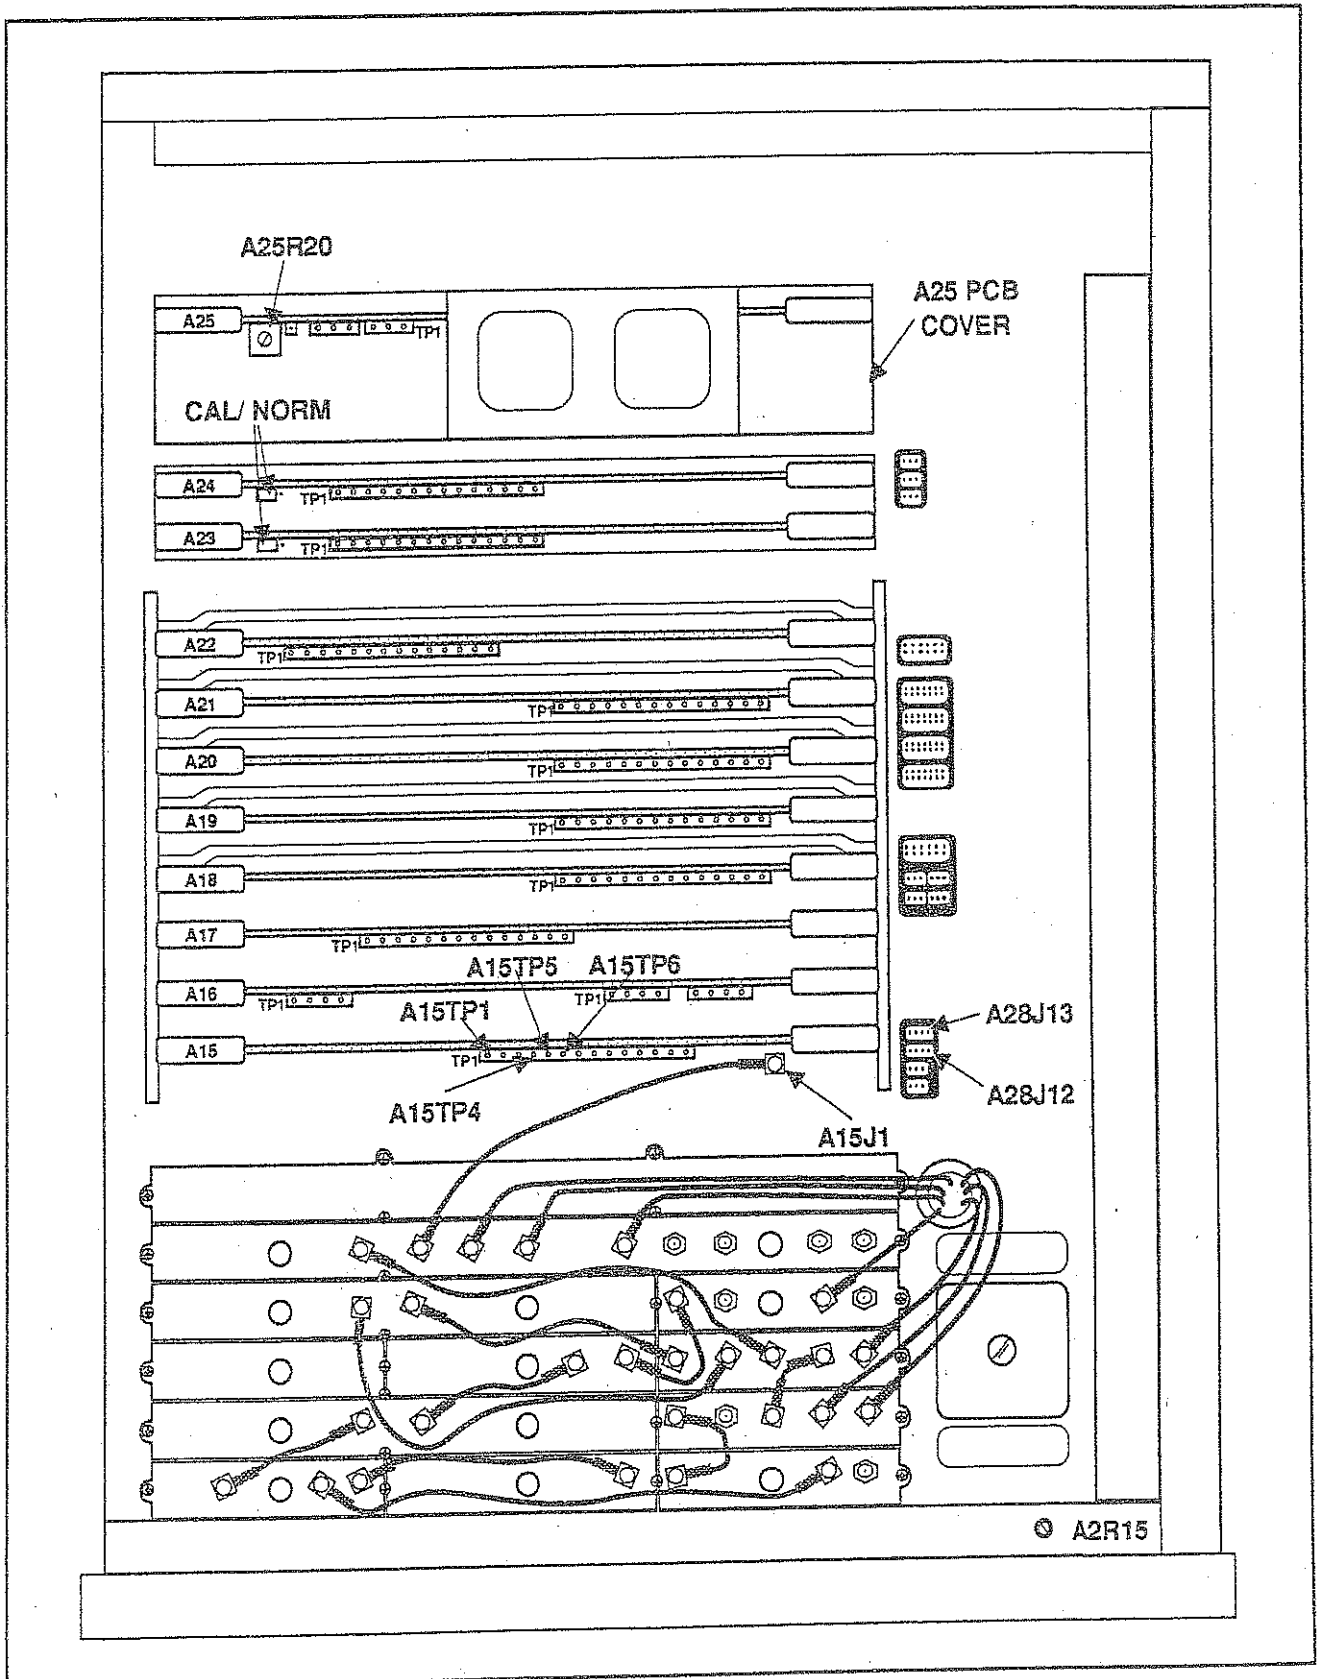
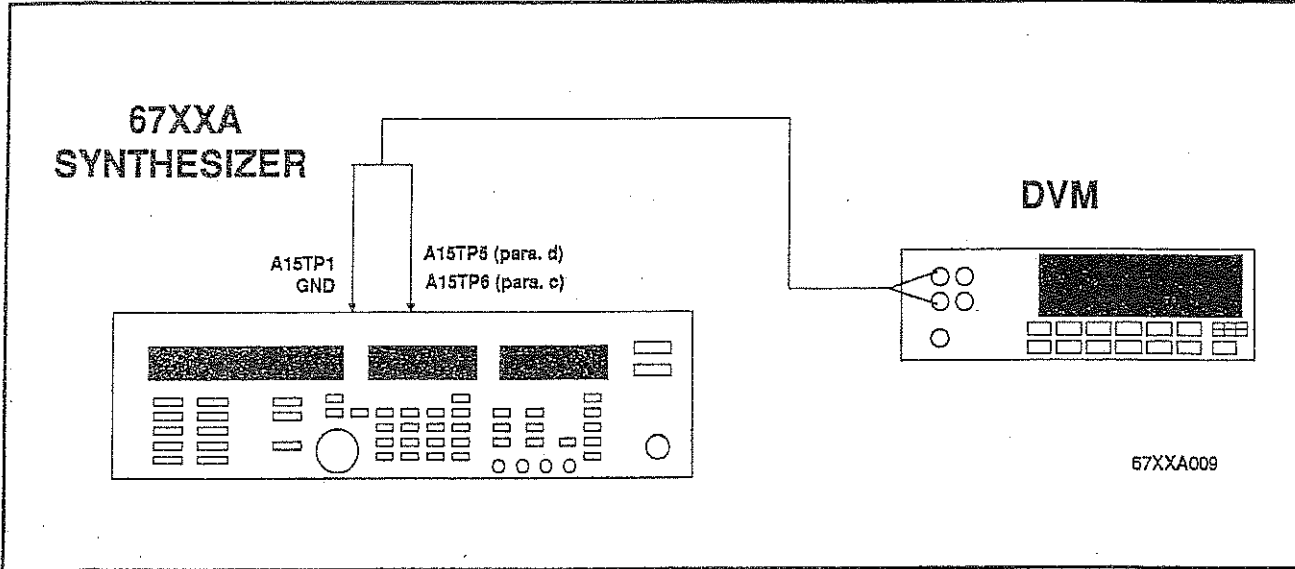
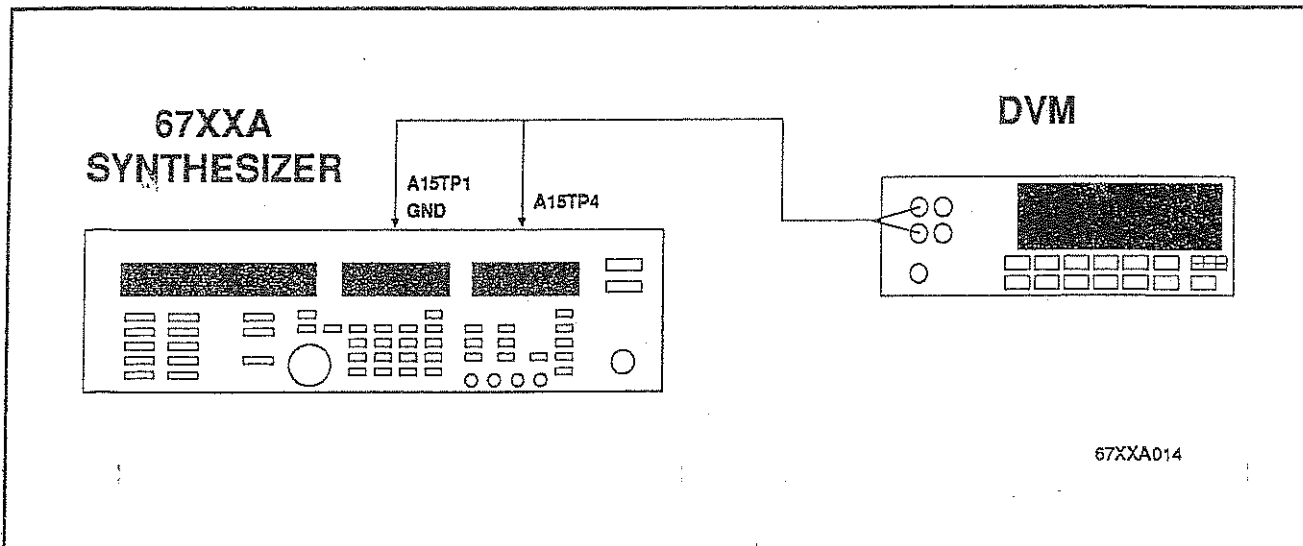

Figure 3-1. Top View of 67XXA Showing Adjustment, Connector, and Test Point Locations
Figure 3-3. Test Equipment Setup for ALC Level Offset Adjustment
Figure 3-5. Test Equipment Setup for External Leveling Offset Adjustment
- (c) Remove the cover from the A25 PCB housing (see Figure 3-1).
- (1) Connect the coax center conductor to test point A25TP3 (see Figure 3-1).
- (2) Connect the coax ground (shield) to test point A25TP1.
3. On the 67XXA, adjust A25R20 (see Figure 3-1) to provide a stable squarewave display on the Oscilloscope.
1. Connect the equipment as shown in Figure 3-3 (see Figure 3-1 for test point locations).
For 67XXA models without Band 0 (0.01 to 2 GHz), remove the cable from A28J12 and temporarily connect it to A28J13 (see Figure 3-1).
- (a) Connect the DVM (+) lead to the 67XXA test point A15TP6 (see Figure 3-1).
- (b) Connect the DVM (-) lead to the 67XXA test point A15TP1 (see Figure 3-1).
2. Connect the DVM (+) lead to 67XXA test point A15TP5 (see Figure 3-1).
1. Connect the equipment as shown in Figure 3-5 (see Figure 3-1 for test point location).
3. Connect the DVM (+) lead to the 67XXA test point A15TP4 (see Figure 3-1).
4. Connect the DVM (-) lead to the 67XXA test point A15TP1 (see Figure 3-1).
5. On the 67XXA A2 PCB, adjust A2R15 for 0 Vdc \pm 1 mVdc (see Figure 3-1 for A2R15 location). Record this voltage on the Test Record.